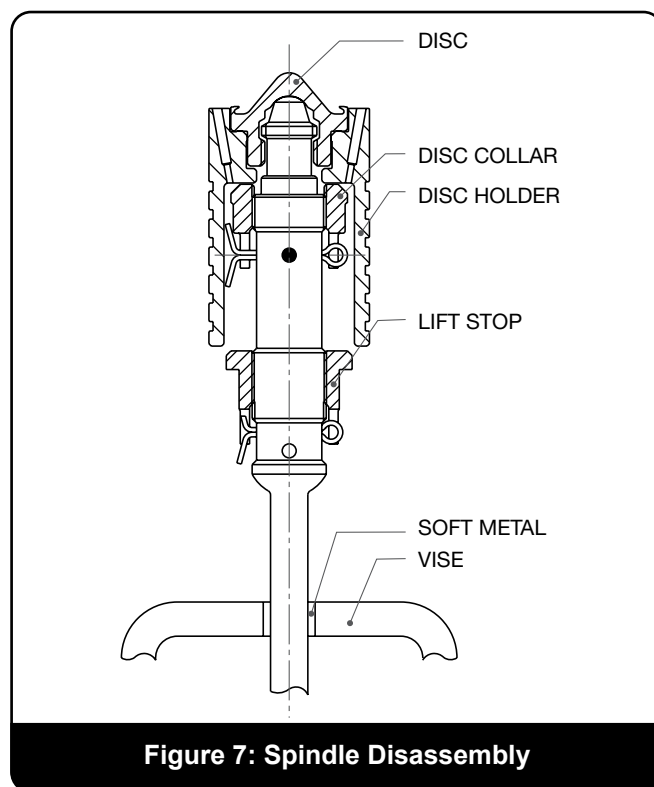

Figure 7: Spindle Disassembly
10. To remove the disc and disc holder from the spindle, first insert the spindle into a vise (see Figure 7), being careful not to damage the threaded end of the spindle. Then, lift up on the disc holder and turn the disc/disc holder counterclockwise to engage the “drop-thru” threads. Once the threads are engaged, release the disc holder and continue to unthread and remove the disc. After the disc is removed, lift the disc holder from the spindle.
- f. Place the disc holder on the spindle, allowing it to rest on the face of the disc collar as previously shown in Figure 7 on Section XI.B. Then assemble the disc holder and new disc. The disc should be free enough to rock on the spindle tip. If there is no freedom, lower the disc collar until the disc is free to rock slightly initially, approximately .001 to .002" (0.25 to